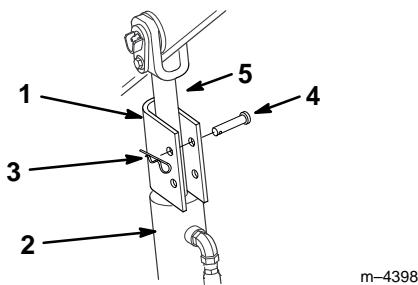

Figure 12
4. Position a loader arm cylinder lock over each lift cylinder rod (Fig. 12).
- Secure each loader arm cylinder lock with a clevis pin and cotter pin (Fig. 12).